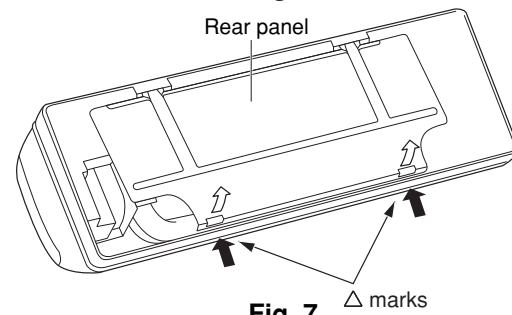

Fig. 7
- (2) Press the 2 \triangle marks on the frame cover and disengage the stationary tabs from the frame. (Fig. 7)
- (3) Remove the rear panel.